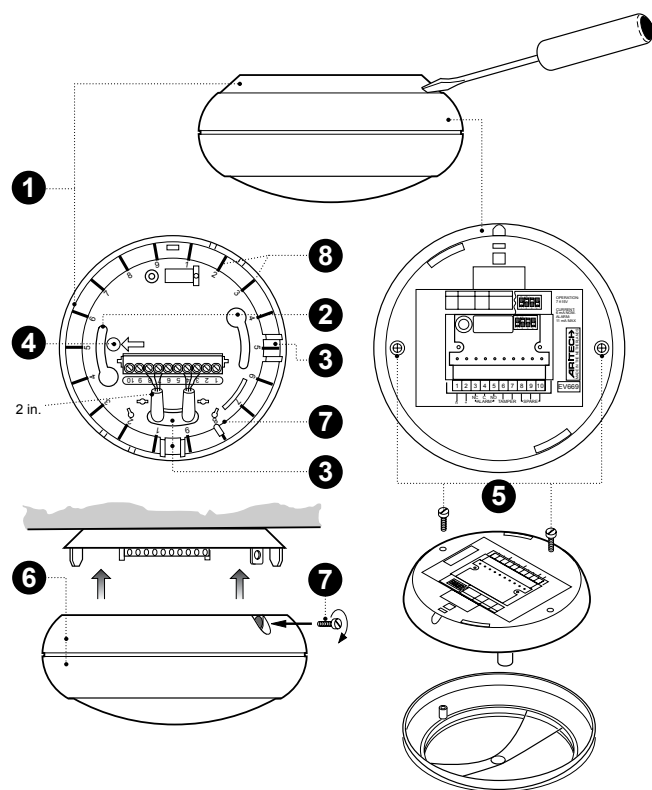
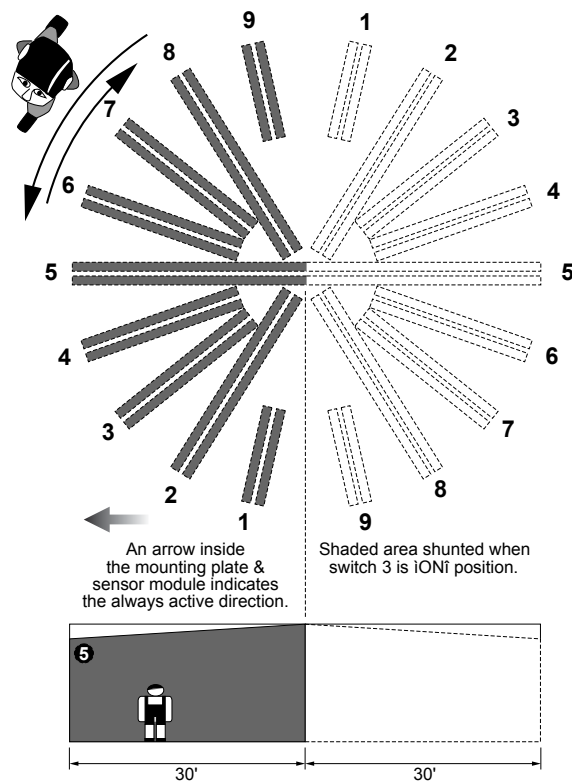

Figure 1
Figure 2
- Lift off mounting plate (1) as shown in Figure 1. Fasten the mounting plate to the ceiling in the required position using mounting holes (2).
**Note:** An arrow in the mounting plate (4) (see Figure 1 and Figure 2) and inside the sensor module shows the always active coverage pattern. The coverage pattern **opposite to the arrow** can be disabled by setting switch 3 in the “ON” position.
Undo the screw (5) and open the sensor module (6) (see Figure 1).